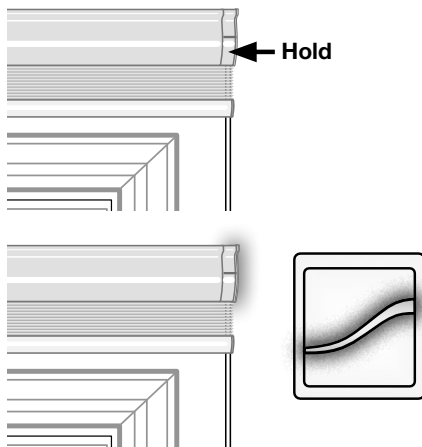

Fig. 32
- B. Press and hold the button on the headrail/motor end until the LED begins to flash green (about three seconds) and release. The LED on both the motor and the remote will turn solid green, then turn off and the shade will jog, confirming association. (Fig. 32)